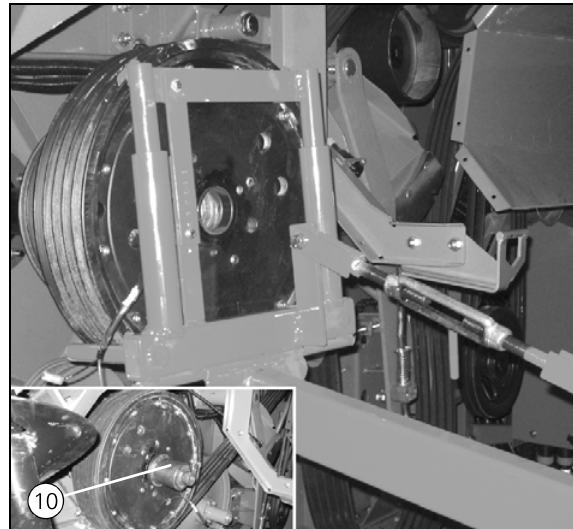

Fig. 42
11. Pull the magnetic clutch off the shaft and lift down using suitable lifting gear, see (Fig. 42).